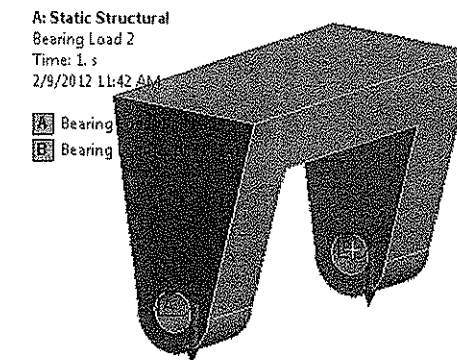

Figure 9-72 Resulting direction of the loads
15. Enter **0** in the **X Component**, **-10** in the **Y Component** and **0** in the **Z Component** edit boxes; a red arrow is displayed on the selected surface, as shown in Figure 9-72. Also, a green tick mark is placed before **Bearing Load** in the Tree Outline.
20. In the **Y Component** edit box, specify **-10** as the component of the Bearing Load vector. The direction and magnitude of the load is specified, refer to Figure 9-72.